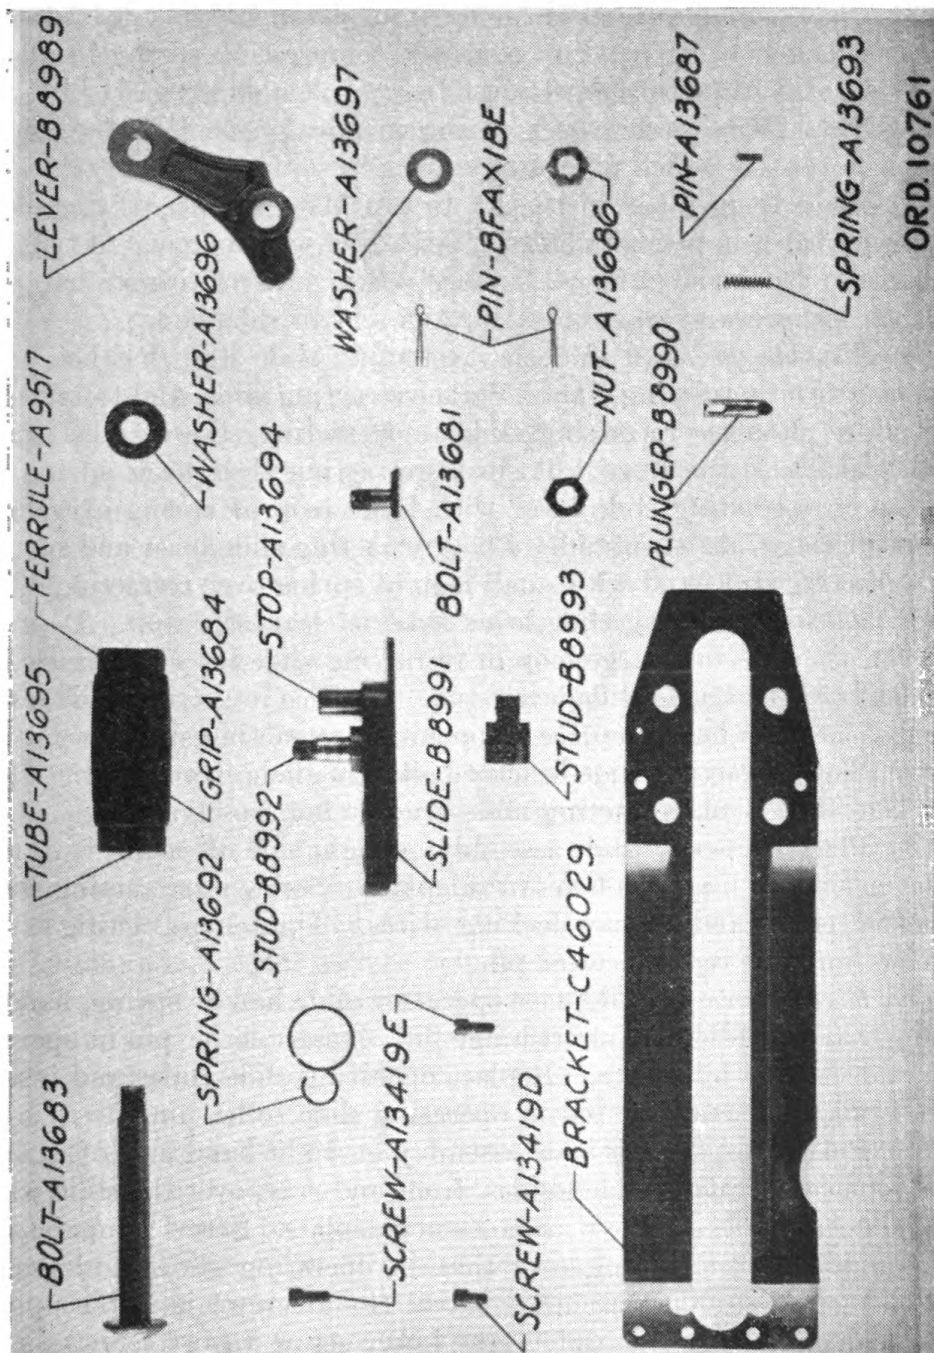

FIGURE 11.—Retracting slide group (flexible gun).
(2) To remove retracting slide assembly from casing (flexible gun only), pull out locking wires and unscrew retracting slide bracket screws. This frees retracting slide assembly. Components of the retracting slide are shown in figure 11.